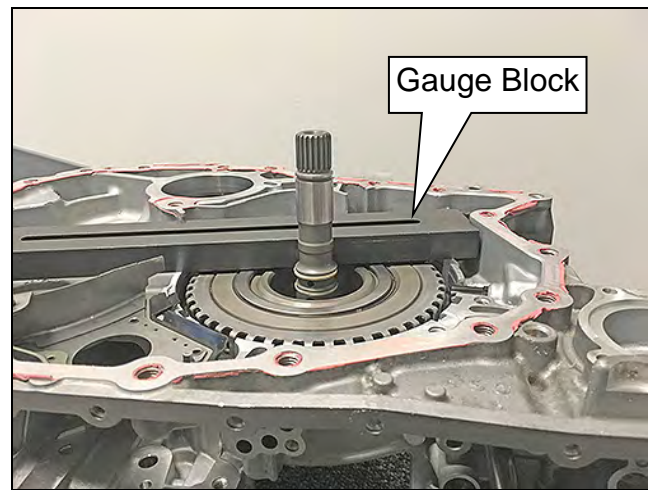

Figure 3GG
- a. Position the Gauge Block over the clutch assembly bore on the surface where the dummy cover seats (Figure 3G).